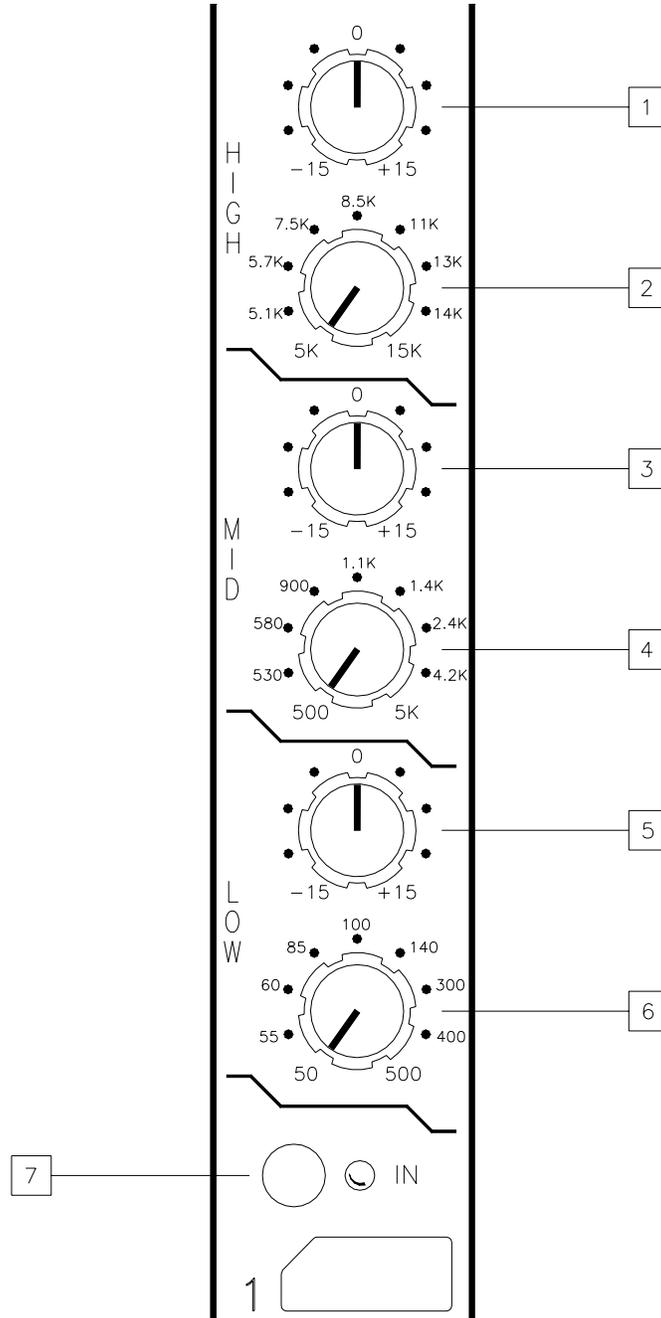

Figure 10. Equalizer Channel
Refer to Figure 10 for location of items 1 thru 7.